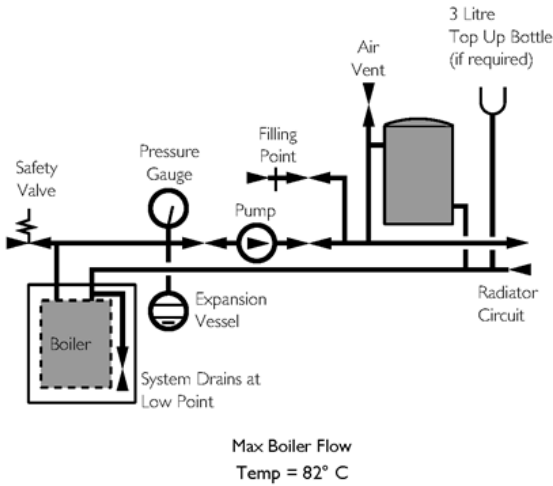

Fig. 13
**6.7 Sealed Systems (Fig. 13)**